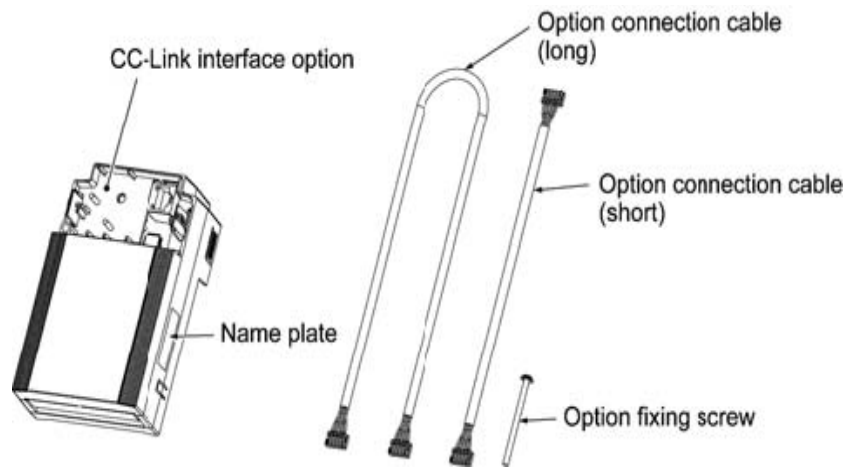

Figure 1.1 CC-Link Interface Option and Accessories
(1) A CC-Link interface option and the following accessories are contained in the package. (See Figure 1.1.)
(2) The option and accessories have not been damaged during transportation—there should be no dents or parts missing.
(3) The model name "OPC-E1-CCL" is printed on the nameplate attached to the right side of the option. (See Figure 1.1.)